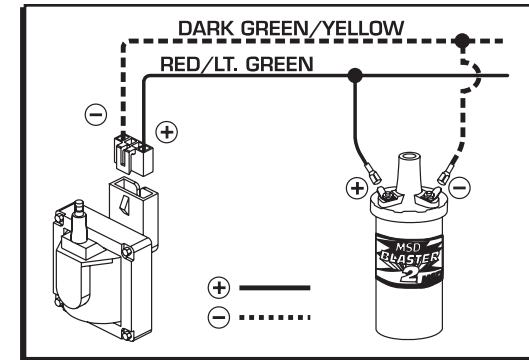

Figure 4 Wiring to a Ford TFI Coil.
4. Install the high voltage wire. If necessary, use the supplied Power Tower (Figure 4).